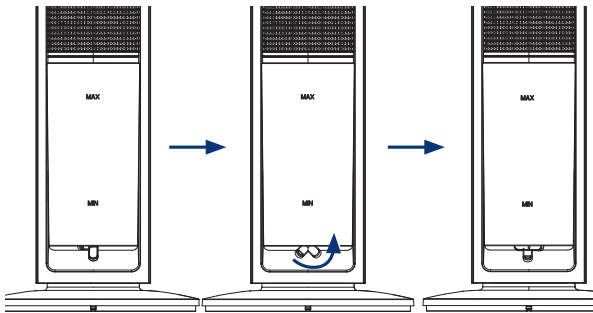

Figure 1
- Rotate the water tank, release knob 90° anti-clockwise and slowly pull out the water tank (Figure 1).